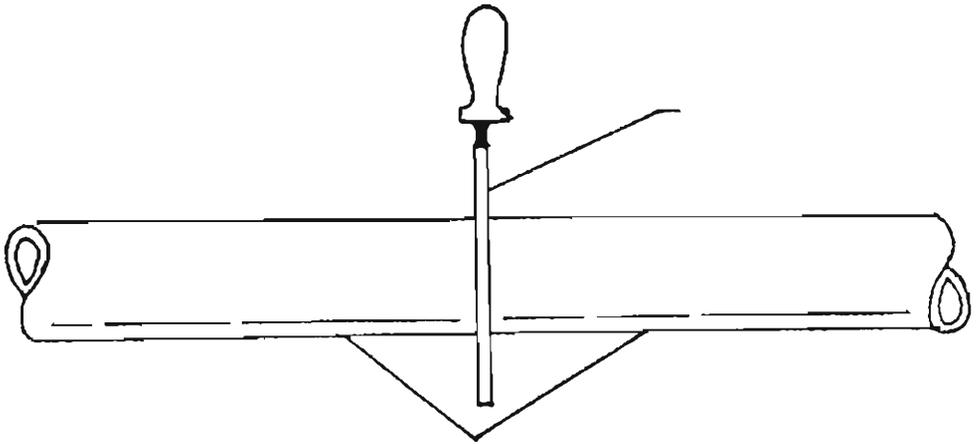

Figure 5.7: HDPE Pipe Ready for Making the Joint
- The hotplate is then slipped into a teflon envelope (the teflon envelope prevents the HDPE from sticking to the plate) and held between the pipe ends which are firmly pressed against it (Figure 5.7). When the pipe is properly heated there will be a lip of molten plastic around the perimeter of the pipe ends. This lip should be of the same size all around the pipe.